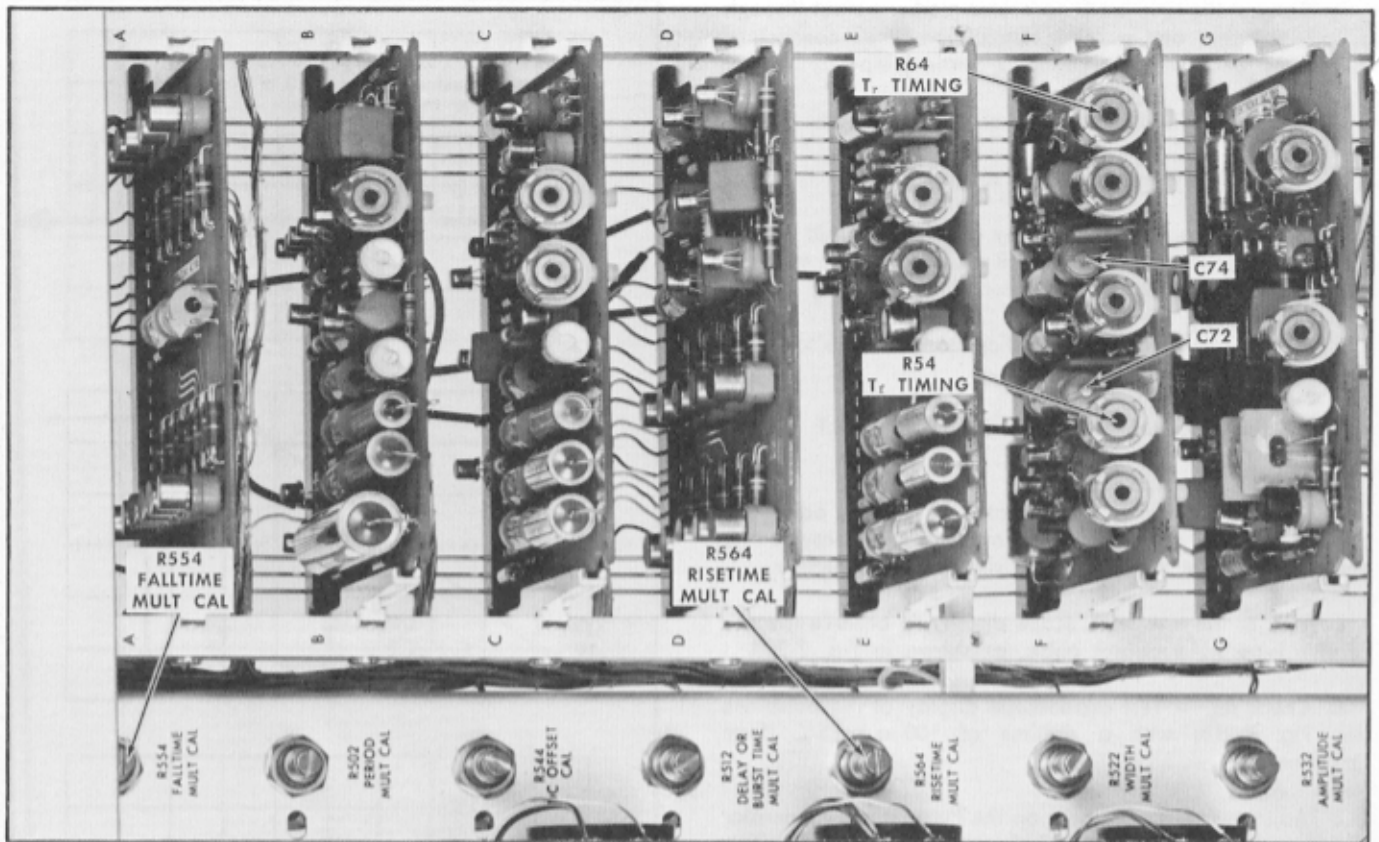

Fig. 7-22. Location of risetime and falltime adjustments on the Pulse Shape Generator (Series F) card and on the Type R116 chassis.
l. Adjust—R64 (T_r TIMING) on the Pulse Shape Generator circuit card (Series F) if the display is not correct. See Fig. 7-22 for the location of R64.
y. Adjust — R564 (RISETIME MULT CAL) on the Type R116 chassis (see Fig. 7-22) if the risetime is not correct.